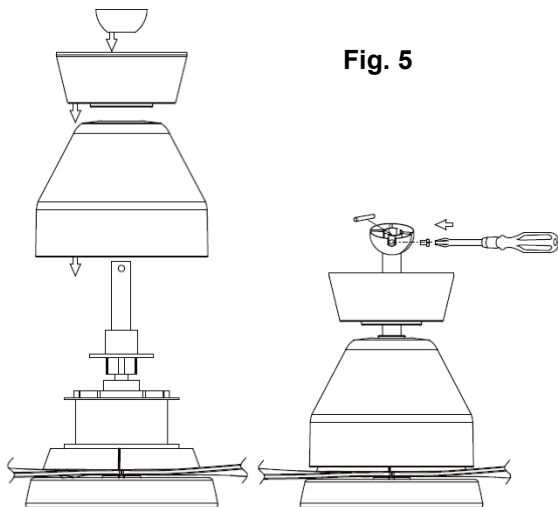

Fig. 5
- Remove the canopy (3) and the motor housing (5) from the down rod (4).
- Secure the blade (7) to the blade holder (8) by tightening the 3 blade screws (6).
- Reinstall the motor housing and the canopy to the down rod. Fig. 5
- Secure back the pin and the ball joint to the down rod. Fig.5